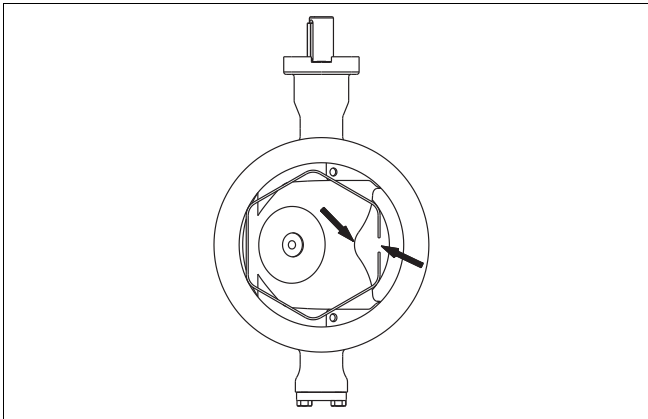

Fig. 26 Mounting the seat
- Place the lock spring (5) on the seat.
- When the valve is opened, the ends of the spring must be by the V-shaped opening, see Fig. 26.